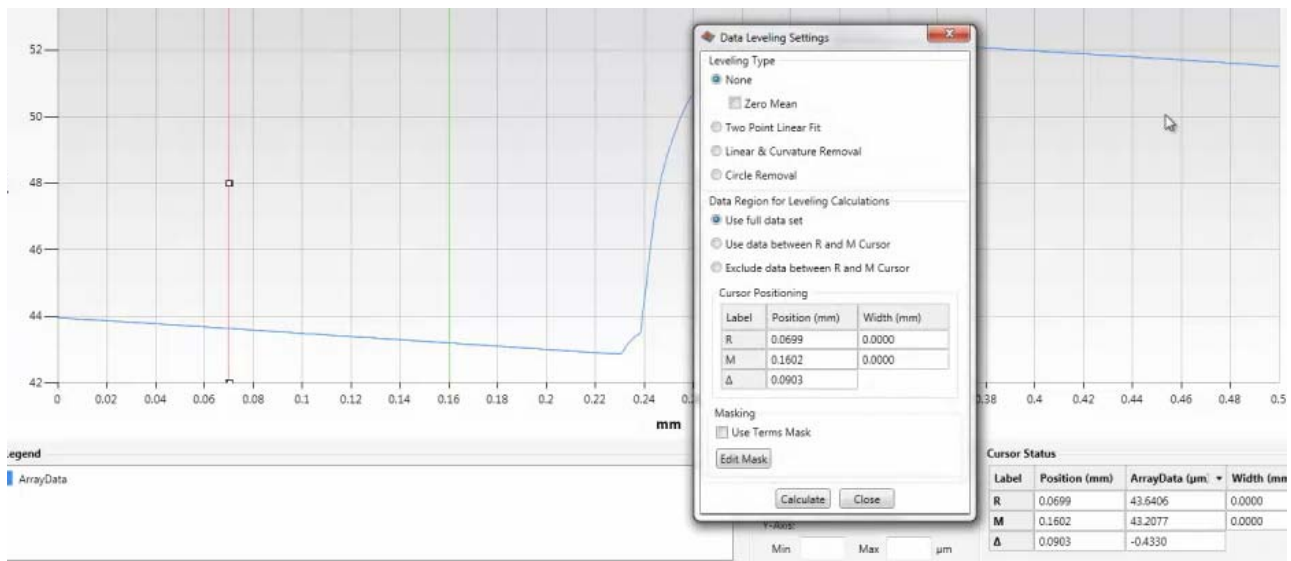

Figure 4-19: Data Leveling Pop-up Menu
- 3 Right-click and select **Two-Point Linear Fit** from the **Data Leveling Settings** pop-up menu (see Figure 4-19).